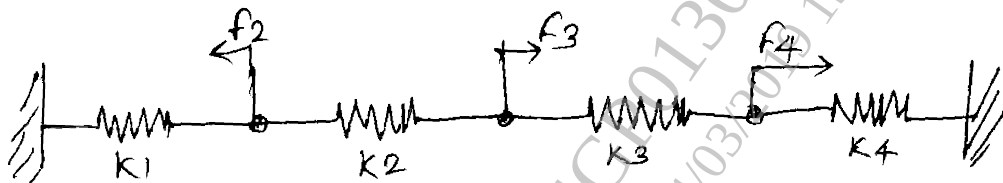

Fig. 1.
- b) A system of spring in shown in Fig. 1 find [6]